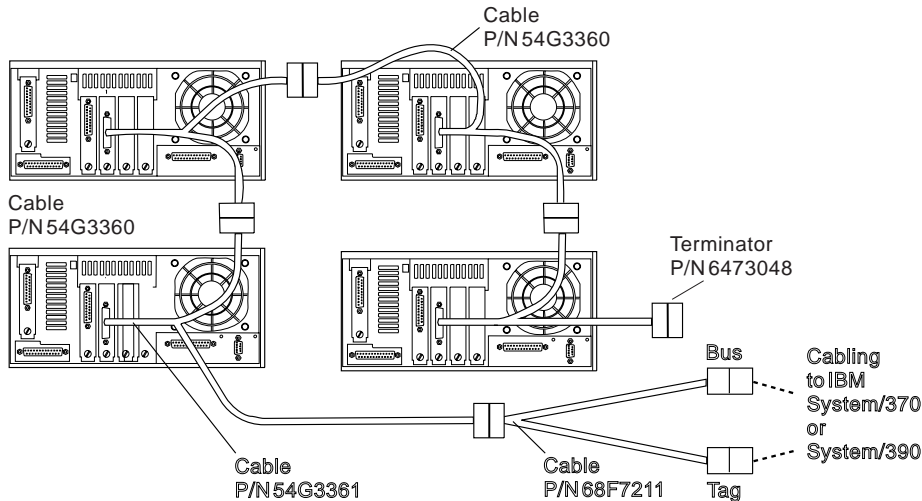

Figure 1-31. BMCA Cabling to Multiple Processor Nodes
Step 0640–006: You were not able to find any obvious cabling problems. Continue diagnostics by testing the interface cables (refer to Figure 1-31 on page 1-143).
- Refer to Figure 1-31 on page 1-143, while isolating fault.